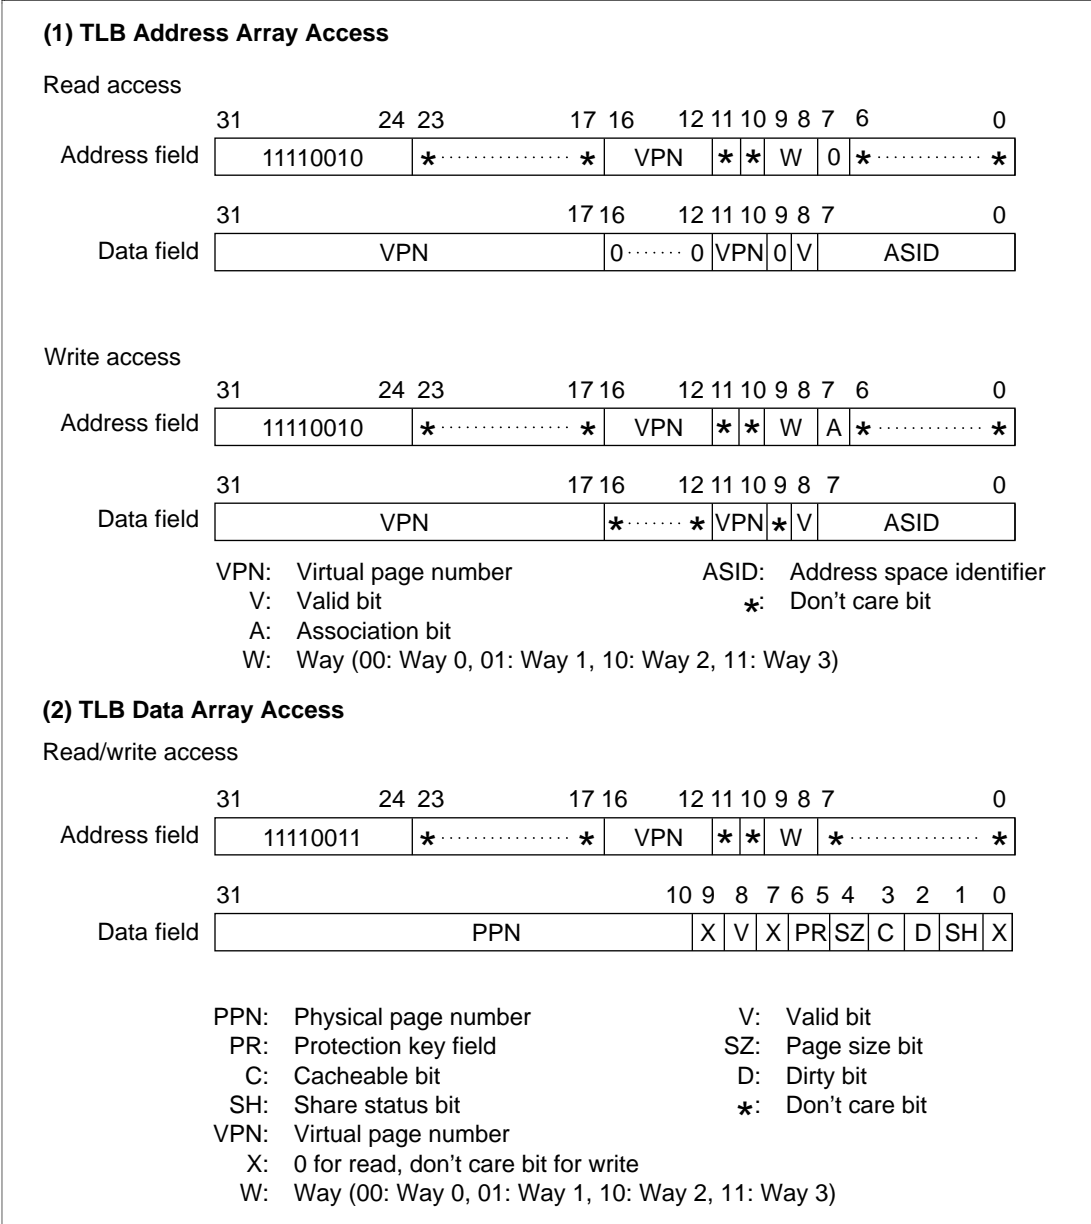

Figure 3.14 Specifying Address and Data for Memory-Mapped TLB Access
The address array is assigned to H'F2000000 to H'F2FFFFFF. To access an address array, the 32-bit address field (for read/write operations) and 32-bit data field (for write operations) must be specified. The address field specifies information for selecting the entry to be accessed; the data field specifies the VPN, V bit and ASID to be written to the address array (figure 3.14 (1)).
When reading, the VPN (31–17, 11–10), V bit, and ASID of the entry specified by the entry address and way number are read in the format of the data field in figure 3.14 without comparing addresses. Zero is read in the data field (16–12).
The data array is assigned to H'F3000000 to H'F3FFFFFF. To access a data array, the 32-bit address field (for read/write operations), and 32-bit data field (for write operations) must be specified. These are specified in the general register. The address section specifies information for selecting the entry to be accessed; the data section specifies the longword data to be written to the data array (figure 3.14 (2)).
Reading the Data of a Specific Entry: This example reads the data section of a specific TLB entry. The bit order indicated in the data field in figure 3.14 (2) is read. R0 specifies the address and the data section of a selected entry is read to R1.